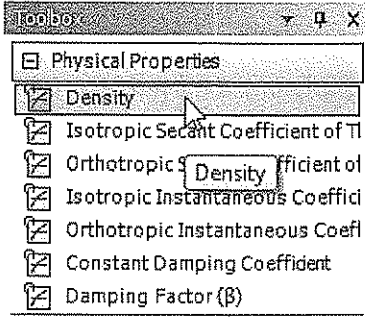

Figure 6-13 Choosing **Density** from the **Physical Properties** toolbox
- 5. Double-click on **Density** under the **Physical Properties** toolbox, refer to Figure 6-13; **Density** is added to the **Properties of Outline** window that is displayed for the **Steel** material.